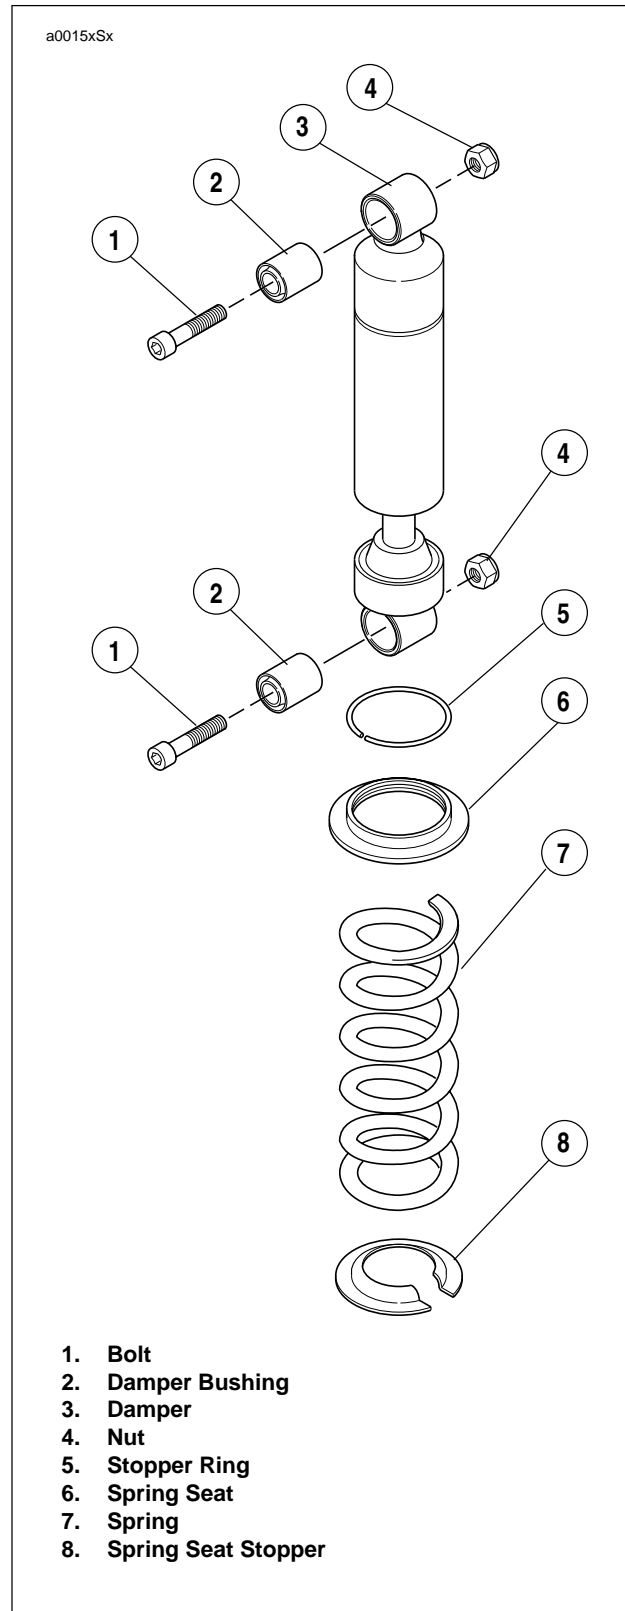

Figure 2-51. Rear Shock Absorber Assembly
See Figure 2-51. The rear suspension preload and compression and rebound damping are controlled by a non-adjustable shock absorber.
5. See Figure 2-51. Remove bolt (1) and nut (4) on top mount.
6. While supporting the shock absorber, remove the bolt (1) and nut (4) from the bottom mount.
1. See Figure 2-51. Place **new** damper bushings (2) into mounting holes of shock absorber (if not installed).
2. See Figure 2-51. Loosely install bottom bolt and nut.